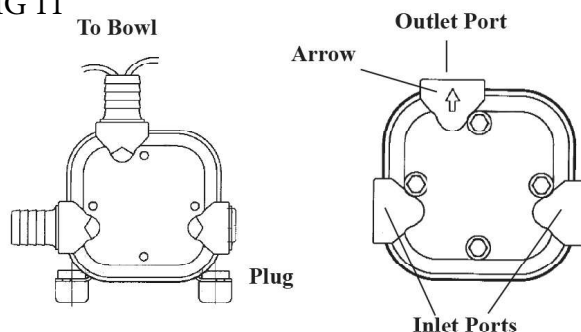

FIG 12
1. Slide fitting clips back (FIG 12).